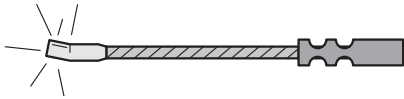

FIGURE 4
**CAUTION:** The bond terminals must have a bright surface. Failure to comply with this may result in a less than optimal weld. See Figure 4.